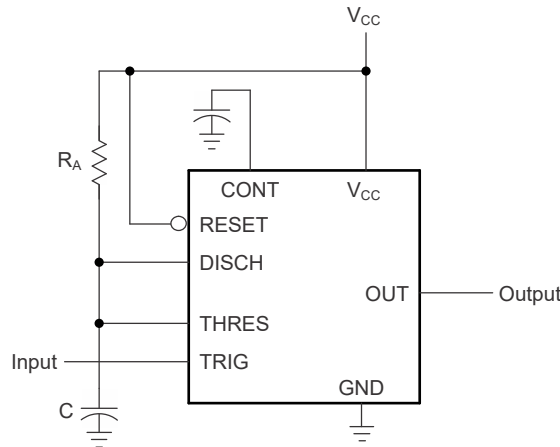

Figure 6-2. Circuit for Monostable Operation
- (1) For conditions shown as MIN or MAX, use the appropriate value specified under *Recommended Operating Conditions*.
- (2) Values specified are for a device in a monostable circuit similar to Figure 6-2, with the following component values: $R_A = 2k\Omega$ to $100k\Omega$, $C = 0.1\mu F$.
For monostable operation, Figure 6-2 shows how to connect any of these timers. If the output is low, application of a negative-going pulse to the trigger (TRIG) sets the flip-flop ($\overline{Q}$ goes low), drives the output high, and turns off Q1. Capacitor C is then charged through R_A until the voltage across the capacitor reaches the threshold voltage of the threshold (THRES) input. If TRIG has returned to a high level, the output of the threshold comparator resets the flip-flop ($\overline{Q}$ goes high), drives the output low, and discharges C through Q1.
Figure 6-5 shows that adding a second resistor, R_B , to the circuit of Figure 6-2 and connecting the trigger input to the threshold input causes the timer to self-trigger and run as a multivibrator. Capacitor C charges through R_A and R_B and then discharges through R_B only. Therefore, the duty cycle is controlled by the values of R_A and R_B .
By adjusting the length of the timing cycle, the basic circuit of Figure 6-2 can be made to operate as a frequency divider. Figure 6-8 shows a divide-by-three circuit that makes use of the fact that retriggering cannot occur during the timing cycle.
See Figure 6-2